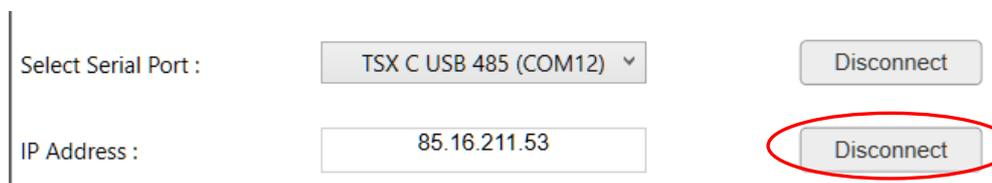

Figure 18
2. From the pull-down menu located underneath the Tesys T graphic, as in Figure 17, select the COM port for the “TSX C USB 485”. In this example, it is COM 12. Click on the “Connect” button to connect to the Tesys T. Once connected, the “Connected Device Info” fields will populate, as in Figure 18.